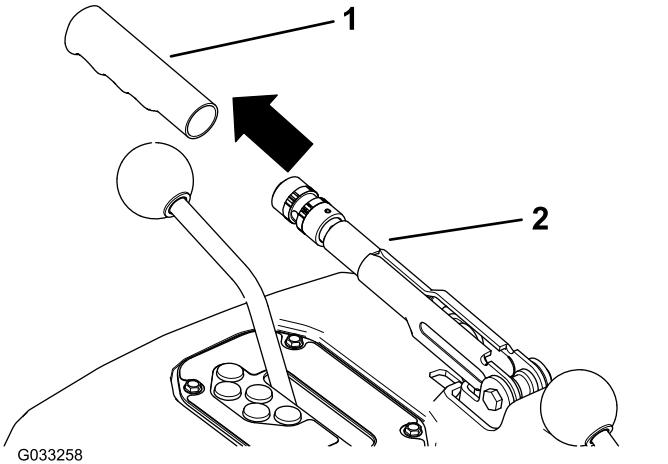

Figure 74
1. Remove the rubber grip from the parking-brake lever (Figure 74).
5. Install the rubber grip onto the parking-brake lever (Figure 74).